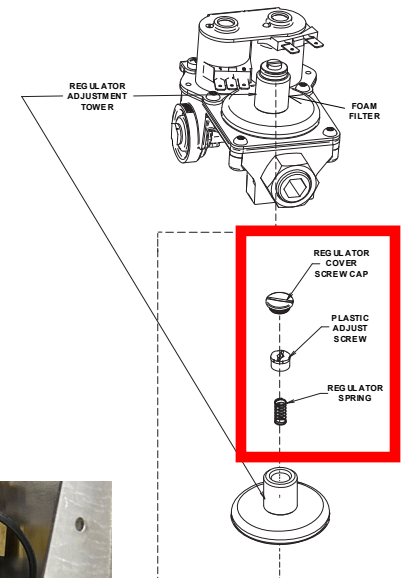

Figure 24
- 17) Remove gas valve adjustment cap and adjustment screw and **BLUE** gas spring from **BOTH** the gas valves (see Figure 24).
- 27) Remove the regulator cover screw cap (see Figure 24).